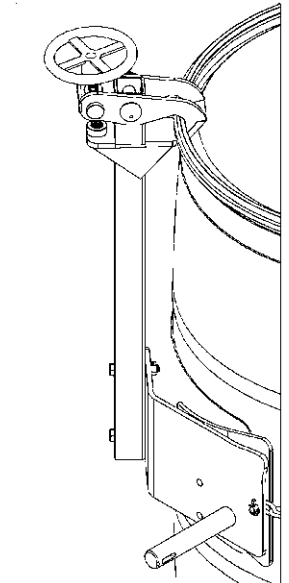

Figure 2.2
- The **Top Rim Clamp** (Kit # 4560M-P) grips the upper rim of your drum to prevent it from slipping through the drum holder (see figure 2.2). To handle a 55-gallon (210 liter) plastic drum with top rim, you **must** install either the Bracket Assembly or the Top Rim Clamp. You can use the Top Rim Clamp with a 55-gallon (210 liter) plastic, steel or fiber drum with suitable top rim.